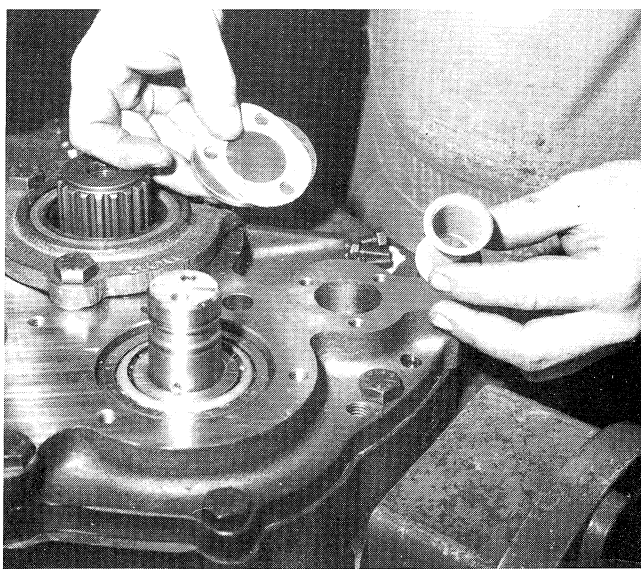

Figure 6-4. Pump Suction Filter Screen and Cover Plate Removal.
11. Remove the three capscrews (Figure 12-1, 43), filter screen cover (44), gasket (45) and screen (46) from the rear cover (11). See Figure 6-4.